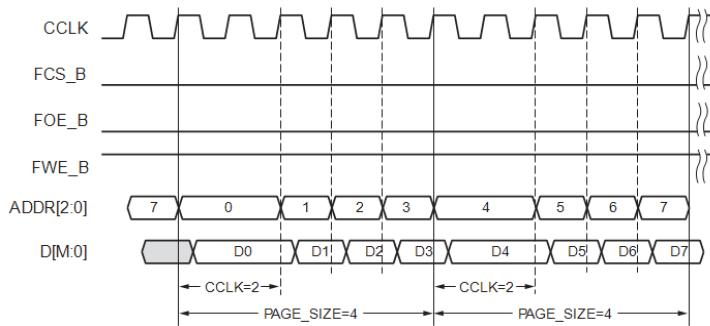

Figure 24: BPI-Up Waveforms (Page Size = 4 and First Access CCLK = 2)
control bits (see “Configuration Options Register 1 (COR1)”). After the COR1 register is programmed, the BPI address timing switches at the page boundary as shown in Figure 24. When the SWITCH command is received, the master CCLK switches to a user- desired frequency, using it to load the rest of the configuration. Refer to the “BitGen” section of the Development System Reference Guide for details on BitGen options.
Notes related to Figure 24:
- Figure 24 shows BPI-Up mode, a page size of 4, and a first access CCLK of 2.